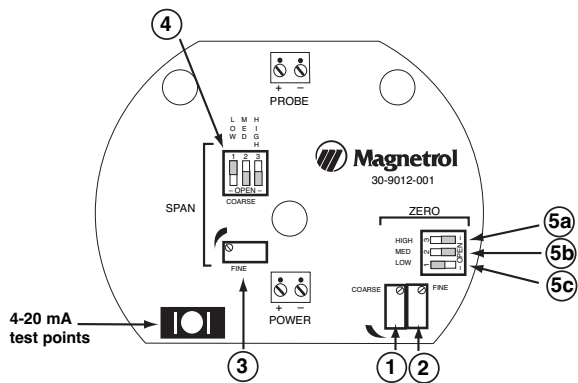

Figure 9
2. Turn the coarse zero ①, zero fine ② and the fine span ③ calibration controls clockwise (CW) twenty full turns or until ratcheting is heard. Set all the coarse span DIP switches in their OPEN (down) position ④.
Ensure that the ZERO dip switches 2 and 3 are in open position and ZERO dip switch 1 is in closed position ⑤. See Figure 9.